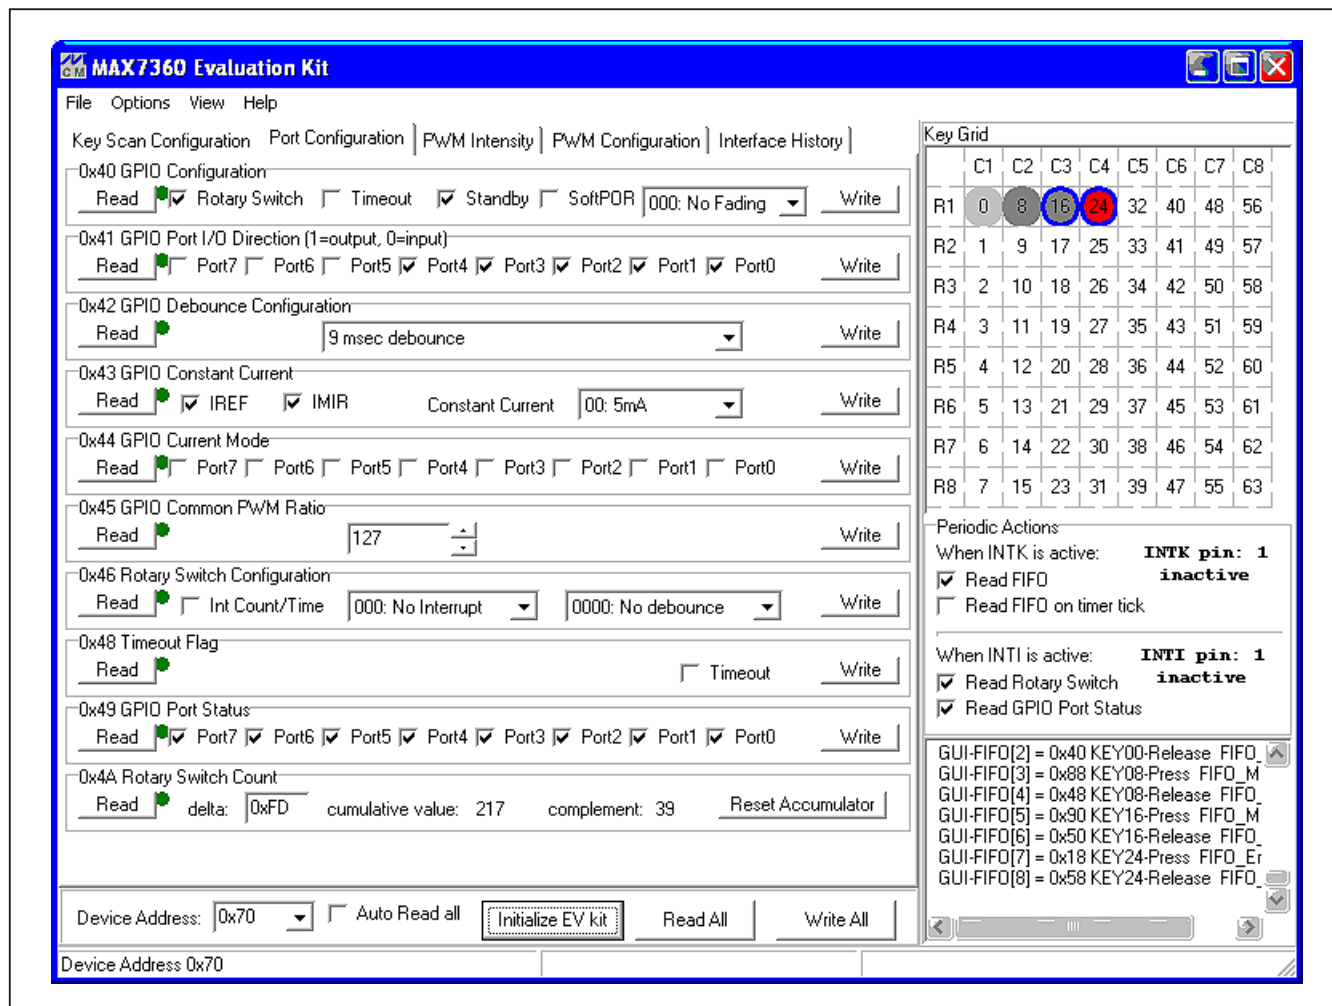

Figure 2. MAX7360 EV Kit Software Main Window (Port Configuration Tab)
- 11) *Rotary Encoder Demonstration:* Select the software's **Port Configuration** tab (Figure 2), and then turn the EV kit's rotary encoder (RE67). Interrupt $\overline{\text{INT1}}$ triggers the software to read the shaft encoder delta, which is accumulated and reported by the software. (**Note:** The mechanical detents on the shaft encoder only approximate the actual encoding positions.)